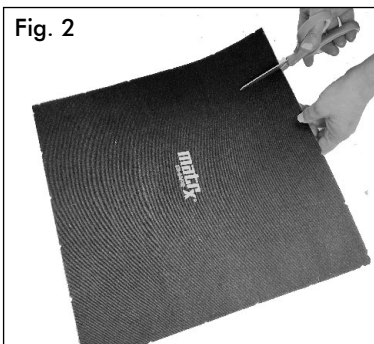

Fig. 2
2. If necessary, carefully cut the fabric interface pad to the desired shape/size, to fit onto the back shell and/or to meet the specific needs of the user (Fig. 2)